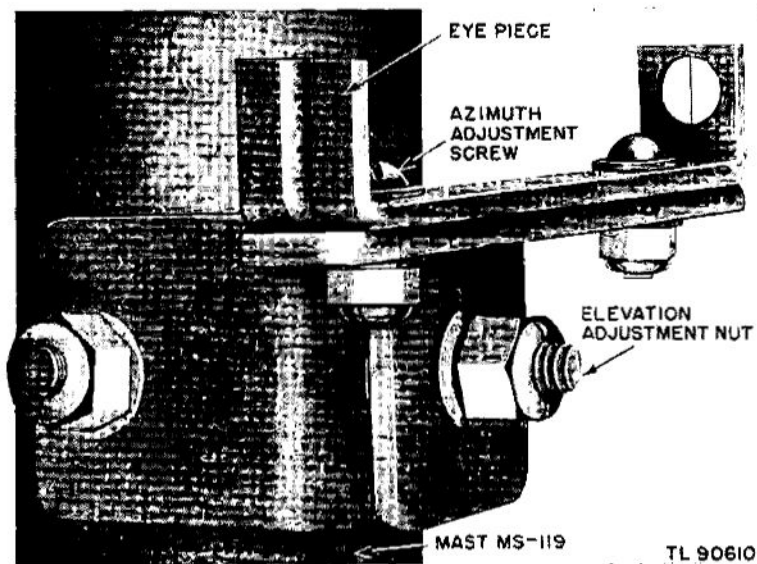

Figure 7. Mast sight.
(2) A canvas cover, Bag BG-179, is furnished to protect the crossarms when not in use.
(3) The four Adcock elements are formed by joining Mast Sections MS-50 with Mast Sections MS-120.
(4) Canvas bag, Roll BG-56-A, is furnished to store and protect the mast sections when not in use.
d. Mast Sight. A short metal strip, bent up at each end approximately $\frac{3}{4}$ of an inch, forms a sight for lining up the beacon array (fig. 7). One end of the bent-up portion contains a slit through which the operator sights, the other end contains a hole with a thin metal strip or hairline running through the center.